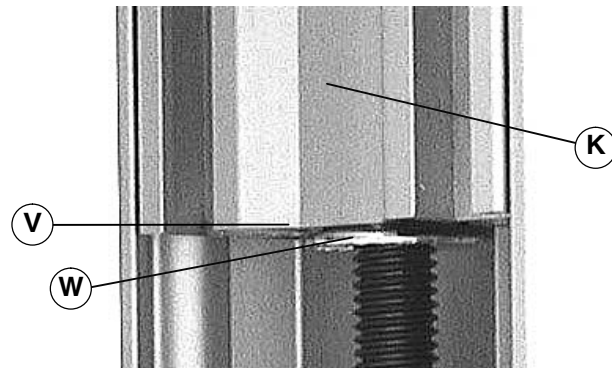

Figure 17
3. Lower stand leg (K of Figure 17) until stand edge (V) is resting on lower nut (W) flange.